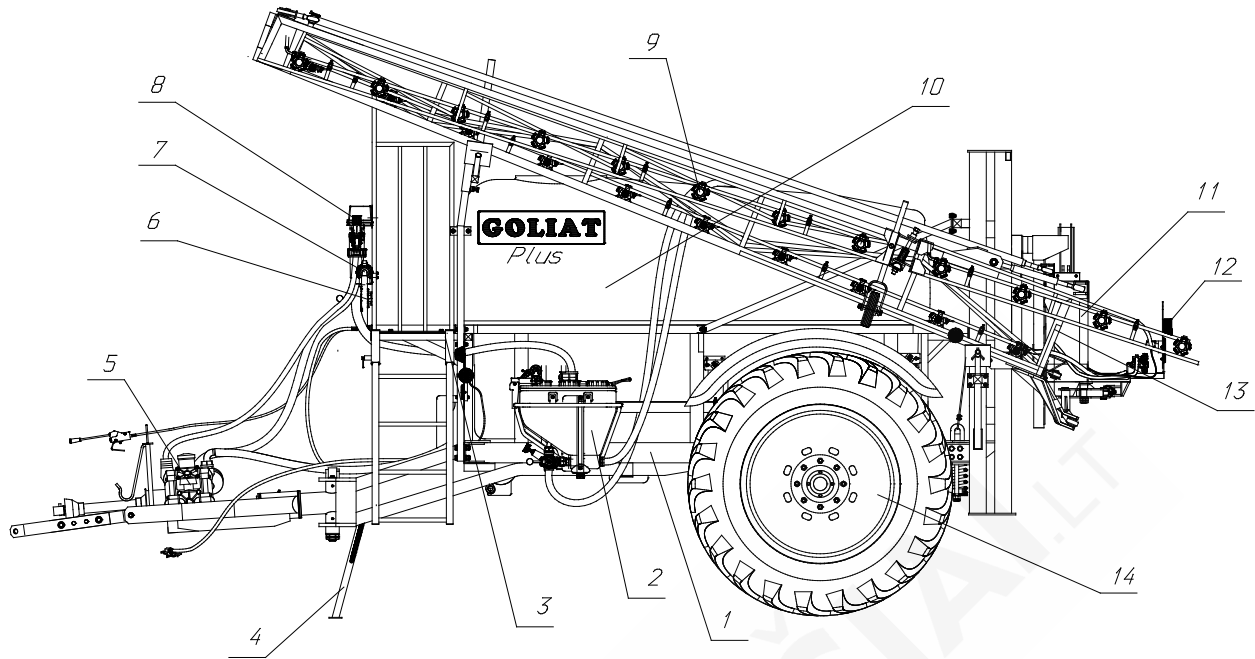

Figure 4 Trailed field sprayer P356 / 1
- welded frame made of steel (Fig. 4, p 1), equipped with a platform with stairs entrance stairs of the distance between 200 mm and the distance between the first steps 300 mm and the substrate (Fig. 4, point 3) and uniaxial chassis equipped with brakes machines;
- 18/20/21m boom (Fig. 4, p 13th), hydraulically folding with passive stabilization, the height of the beam during operation is determined by the hydraulic actuator;
- a diaphragm pump COMET-BP 235 or alternatively used Annovi Reverberi AR 230 bp (Fig. 4, p 5), located on the rotary coupling, driven by the tractor PTO shaft articulated telescopic, splined pump shaft is protected with an approved cover plastics company Bondioli & PAVESI a 21 903,
- the section of the spray heads triple (special order from the head pięciodrogowymi) equipped with three types of slot nozzles of different expenditure (Fig. 4, p 9), in the colors blue, red and yellow, in luminaires equipped with anti-drip valves, filters and caps with bayonet mount;
- lighting (Fig. 4, p 12th),